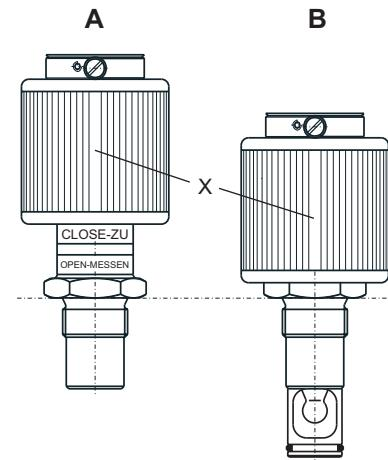

Fig. 7 Turning the fitting
- Turn the union nut (X) to the right up to the stop.
- When the marking "CLOSE - ZU" becomes visible when looking at the quick-change fitting from the side, the electrode can be installed or removed. See Fig. 7, position A.
- Turn the union nut (X) to the left up to the stop.
- With correct and unimpeded immersion of the protective basket, the marking "OPEN - MESSEN" below the union nut X will disappear. See Fig. 7, position X.